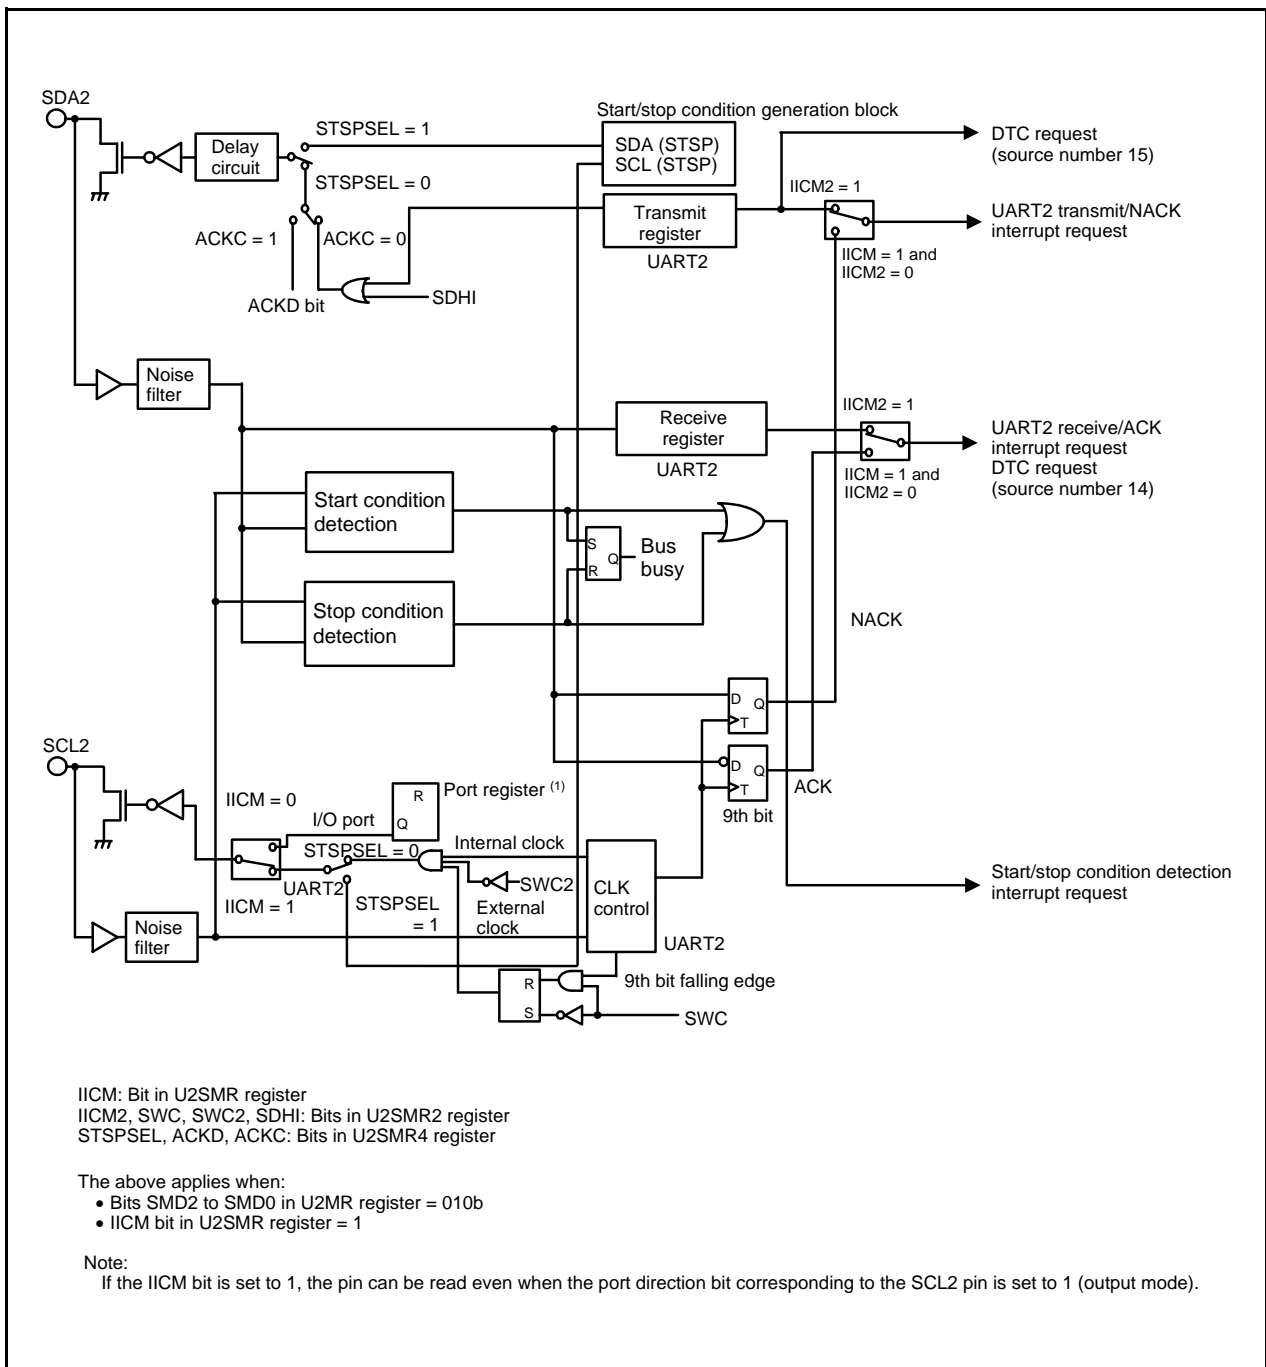
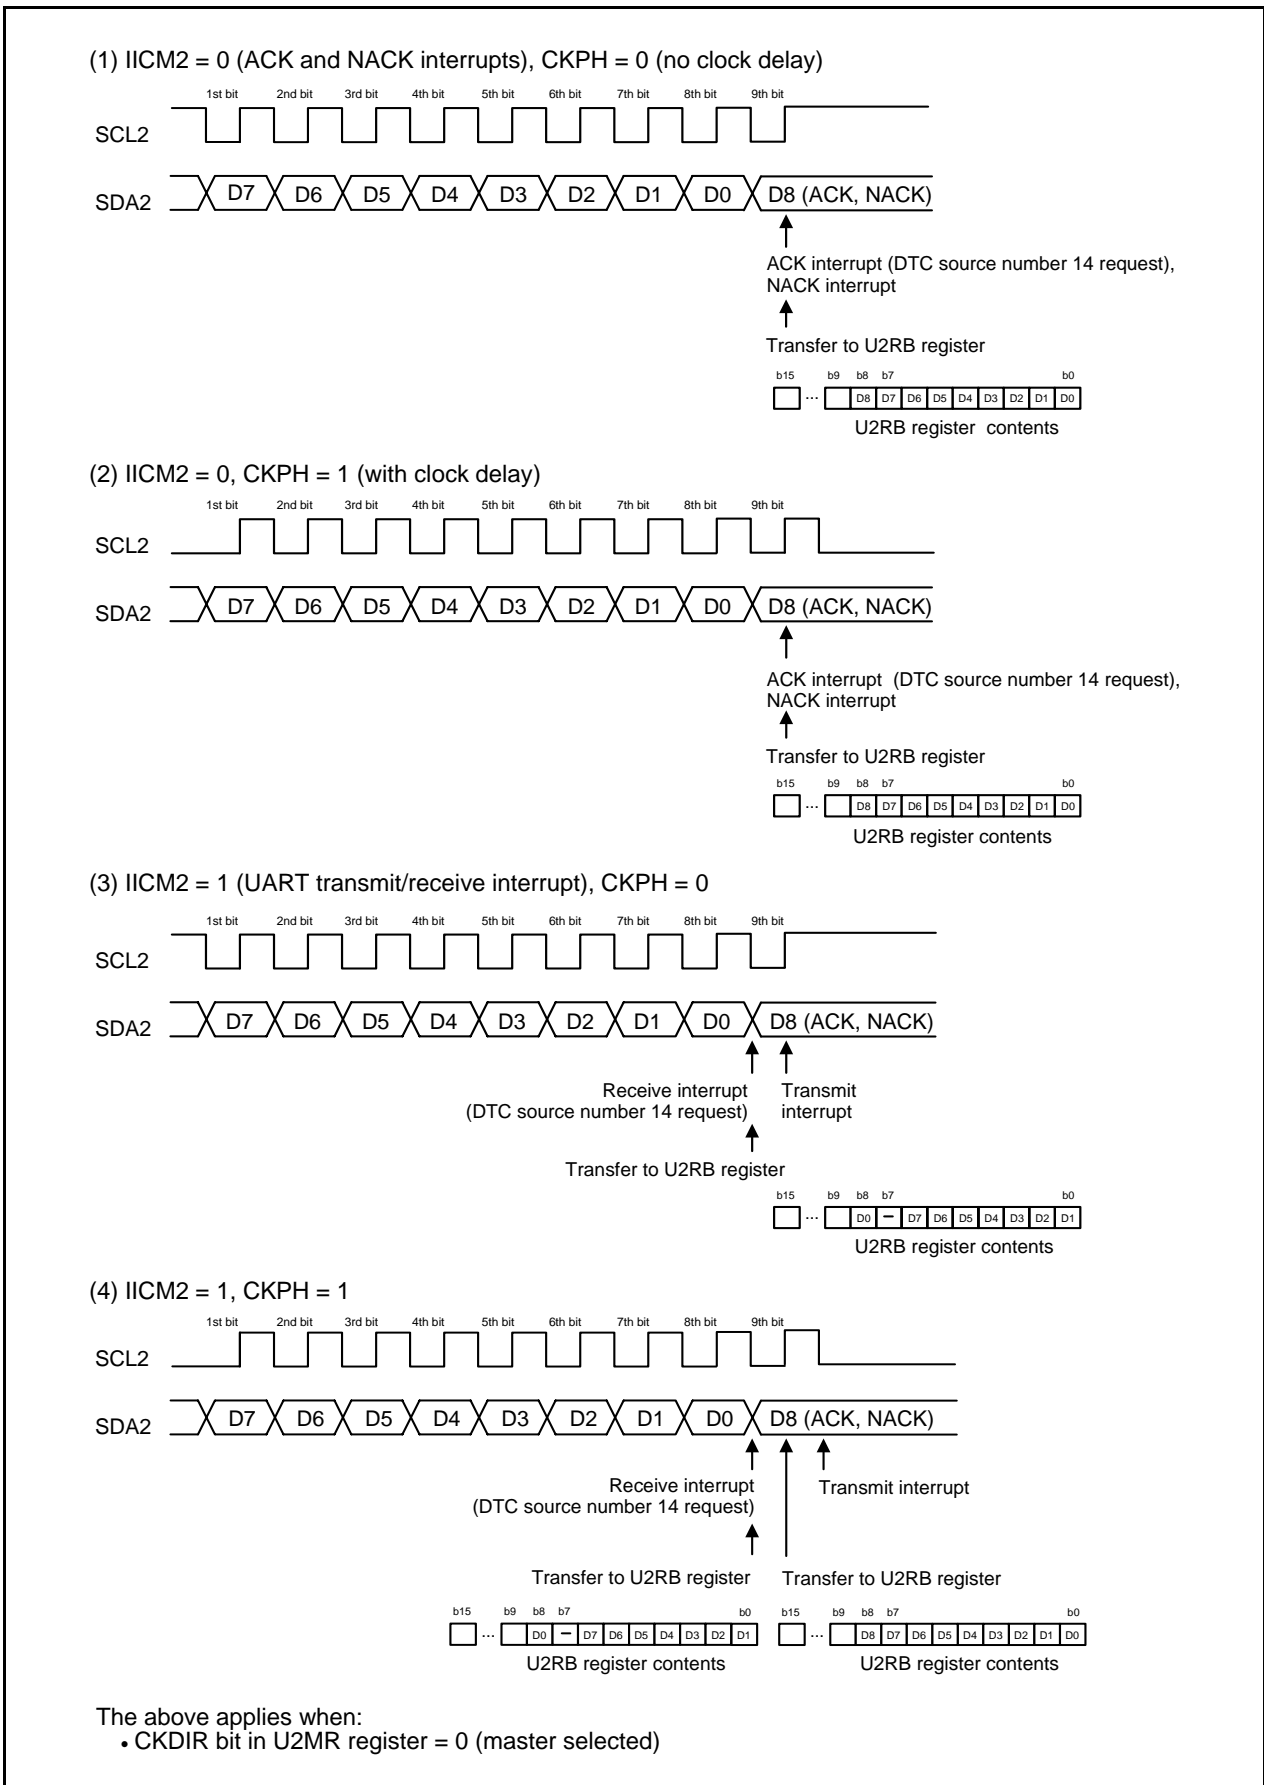

Figure 23.13 I2C Mode Block Diagram
Figure 23.14 Transfer to U2RB Register and Interrupt Timing
I2C mode is provided for use as a simplified I2C interface compatible mode. Table 23.9 lists the I2C Mode Specifications. Tables 23.10 and 23.11 list the registers used in I2C mode and the settings. Table 23.12 lists the I2C Mode Functions, Figure 23.13 shows an I2C Mode Block Diagram, and Figure 23.14 shows the Transfer to U2RB Register and Interrupt Timing.
- Refer to **Figure 23.14 Transfer to U2RB Register and Interrupt Timing**.
The transfer clock is used to transmit and receive data as is shown in **Figure 23.14 Transfer to U2RB Register and Interrupt Timing**.